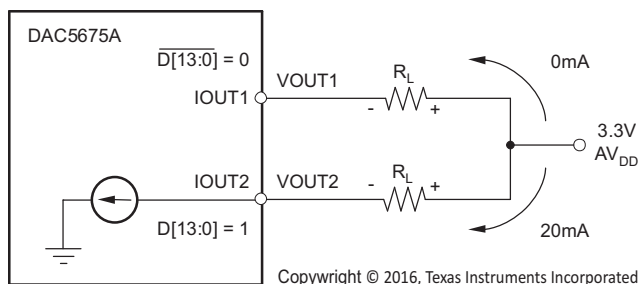

Figure 20. Relationship Between D[13:0], IOUT1 and IOUT2
The output current flow in each pin driving a resistive load can be expressed as shown in Figure 20, as well as in Equation 2 and Equation 3.
Figure 21 shows a simplified schematic of the current sink array output with corresponding switches. Differential NPN switches direct the current of each individual NPN current sink to either the positive output node IOUT1 or its complementary negative output node IOUT2. D[13:0] controls the S(N)C current switches and D[13:0] controls the S(N) current switches, as explained in the previous **DAC Transfer Function** section (see Figure 20). The output impedance is determined by the stack of the current sinks and differential switches, and is > 300kΩ in parallel with an output capacitance of 5pF.